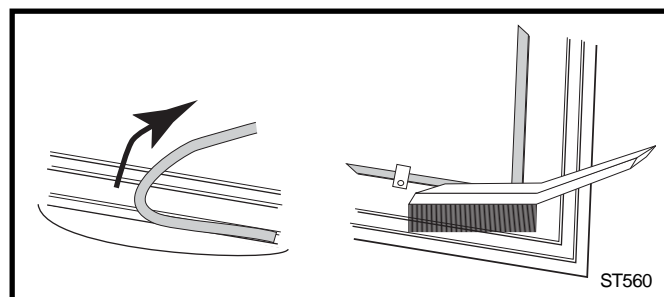

Fig. 23 Remove gasket then clean channel with wire brush.
2. Wearing safety goggles, use a wire brush or the tip of a screwdriver to clean the channel of any remaining cement or bits of gasket. (Fig. 23)